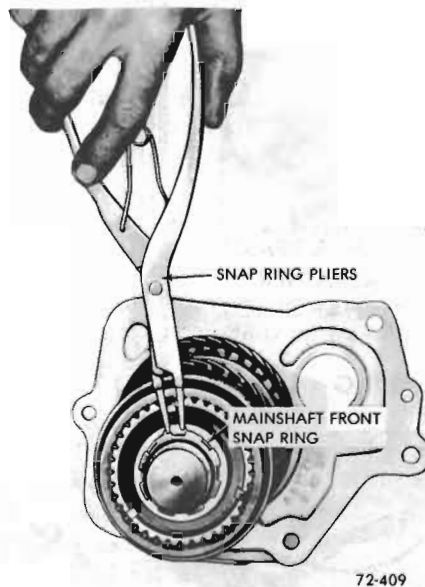

Figure 72-46 - Removing Main Shaft Front Snap Ring
1. Remove mainshaft front snap ring. See Figure 72-46 and remove third-fourth speed synchronizing assembly by holding synchronizing assembly and tapping front of mainshaft with a plastic hammer. Remove third speed gear and blocking ring from front of mainshaft.